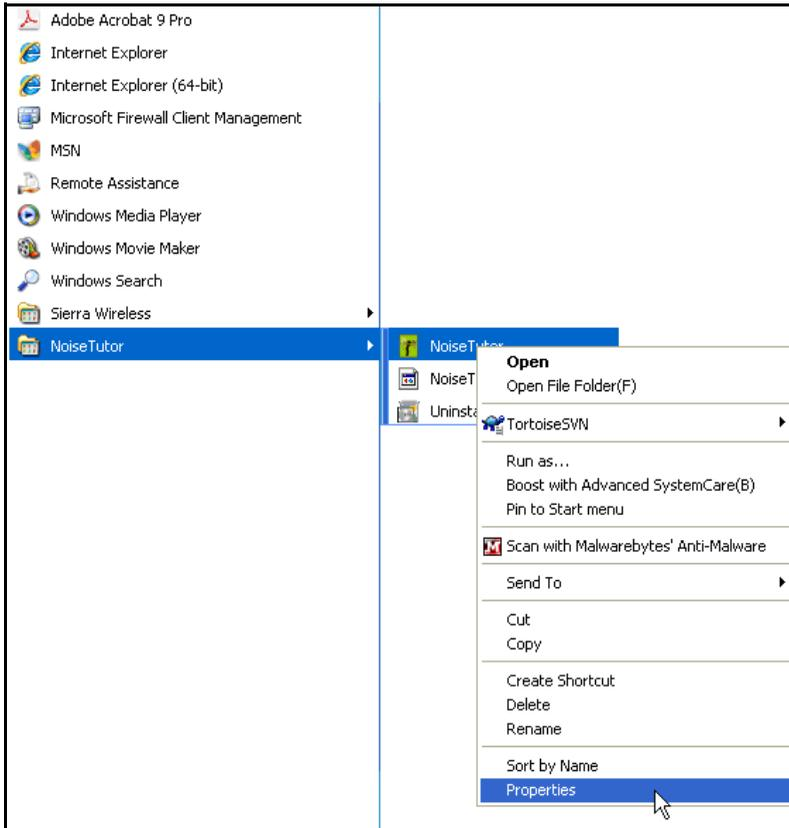

FIGURE 3-1 NoiseTutor Application Properties Access
Step 2 Right-click the NoiseTutor icon and click Properties, as shown in FIGURE 3-1.